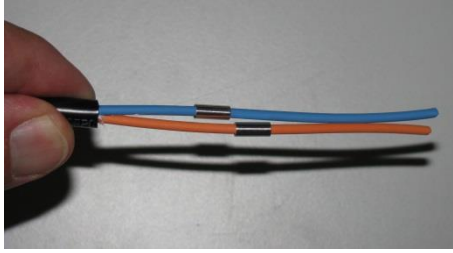

Figure 6
2.3. Slide the crimp sleeves onto the sub cables (figure 6).